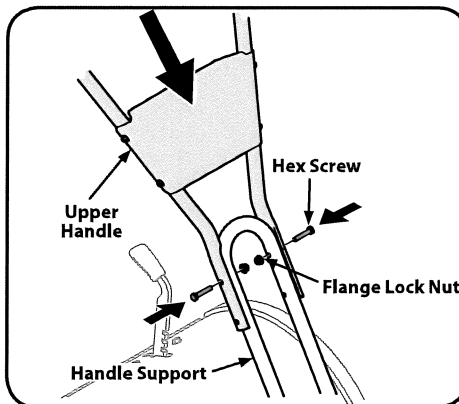

Figure 3-2
2. Using two hex screws and two flange lock nuts, loosely attach the handlebar support using the upper holes. See Figure 3-2.